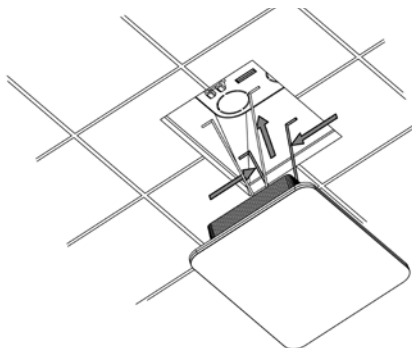

Figure 13
4. Squeeze the retention springs on the back of the fixture and fit them into the junction box (Figure 13). Insert the fixture into the junction box and affix it to the ceiling, being careful not to pinch the pigtail/LED power cable (note that the pigtail/control LED power cable is not shown in Figure 13). Press firmly around edges of the fixture to ensure adhesion to ceiling.